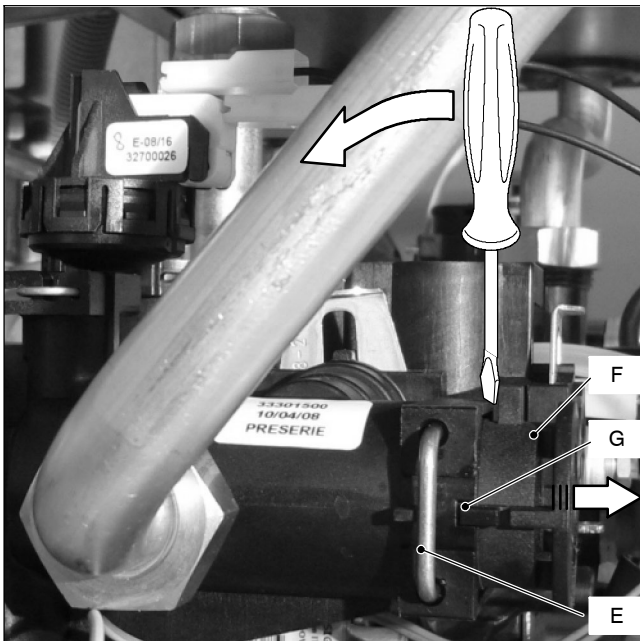

Fig. 8.5
- 4 Remove the fixing spring *E* (Fig. 8.5)
- 5 Remove the tree way diverter valve *F* by levering with a screwdriver in as shown in Fig. 8.5.
Attention. When reassembling the tree way diverter valve be sure that the tree way diverter is correctly oriented by matching the reference *G* with the notch of the water group Fig. 8.5